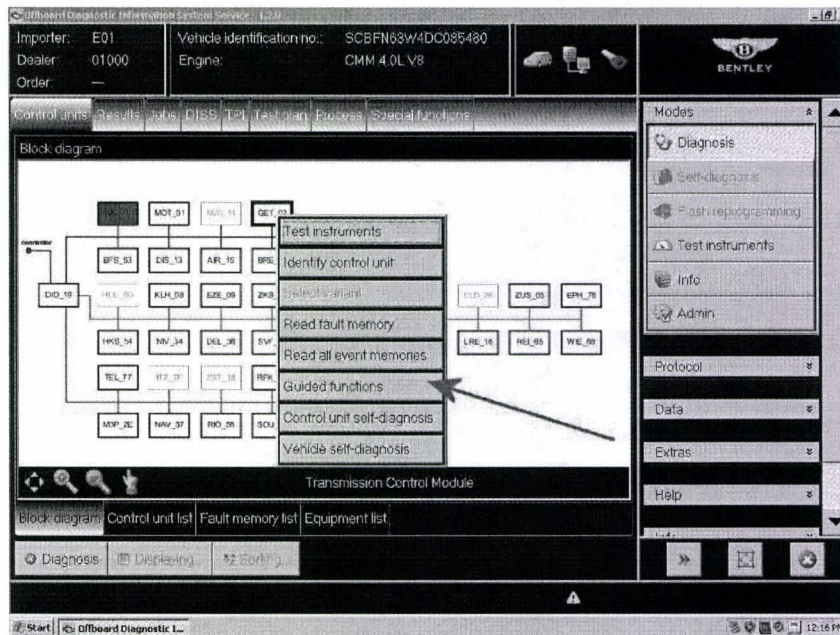

Figure 11
- Referring to Figure 11 – Select Guided Functions